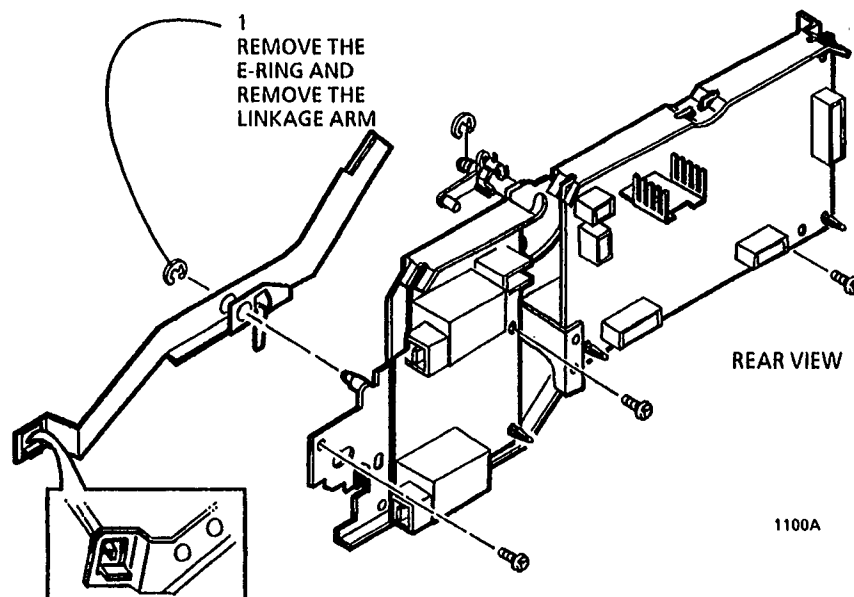

Figure 1. Removing the Registration Gate Linkage Arm
4. (Figure 1): Remove the Registration Gate Linkage Arm.